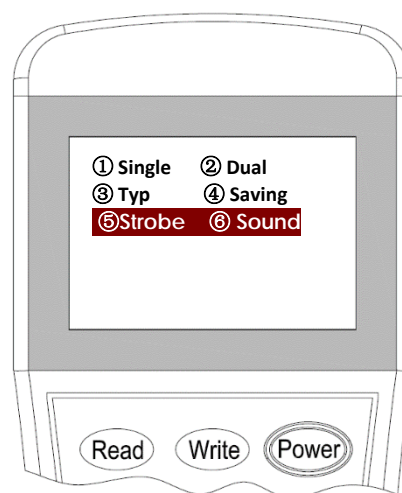

Figure 14
3. Input the **"5"** for **Strobe** type or **"6"** for **Sounder** type, then press **"Write"** to change the setting into the desire mode (Figure 14).